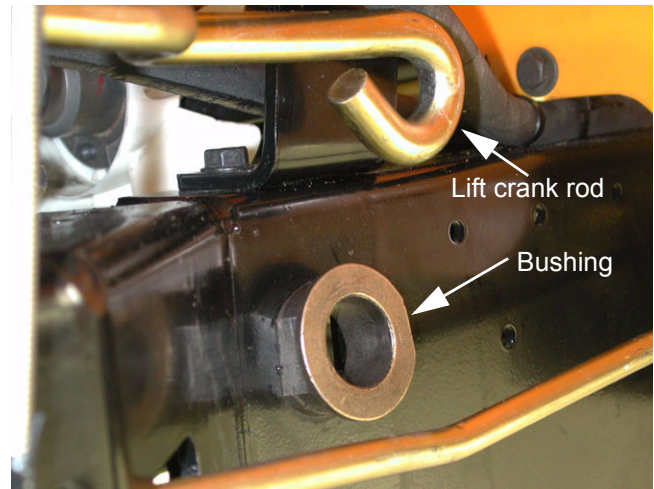

Figure 2.1
- 2.1. Install one Double-D bushing in the right side frame, with the flange outside the frame. See Figure 2.1.